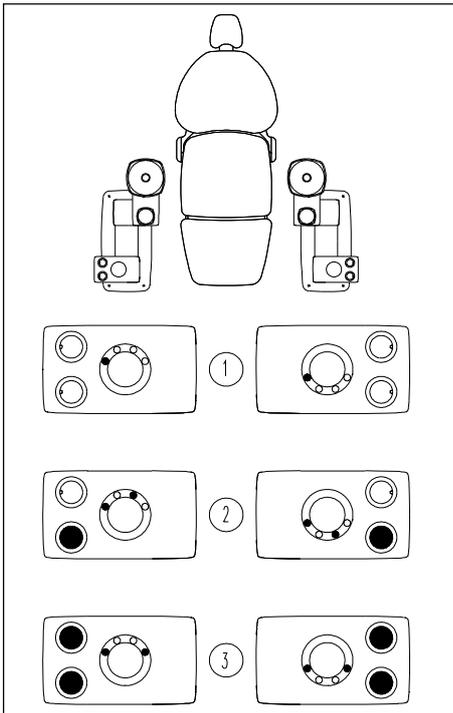

Figure 2. Stop pin positioning for left or right handed units:
- 1) If necessary, place a stop pin in the swivel joint on the stand according to the apparatus load, see Fig. 2. (The supplied extra stop pin is in a plastic bag attached to the arm).